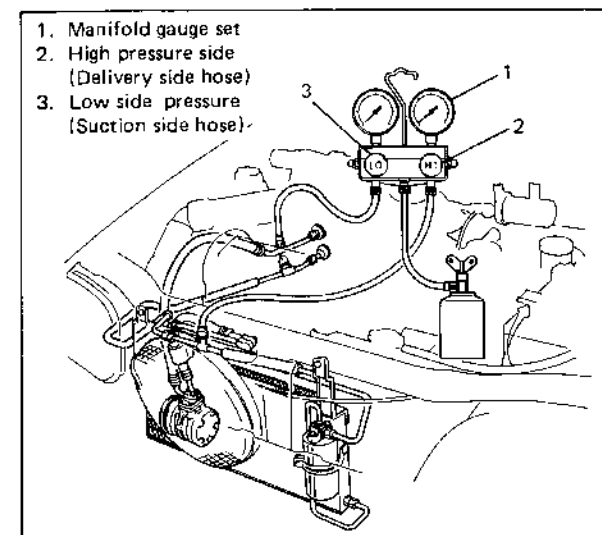

Fig. 1B-7
- 1) Check to make sure that hoses are routed properly after evacuating the system (see Fig. 1B-7).